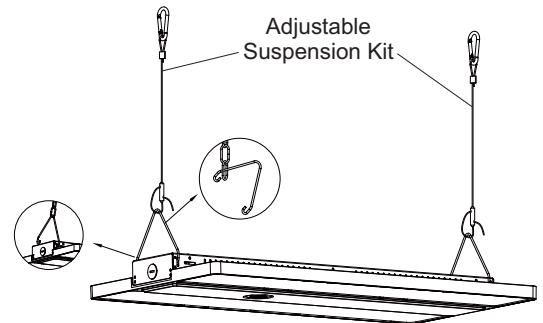

FIG. 1
4. Install the adjustable suspension kit to the fixture at both ends. Fig 1.